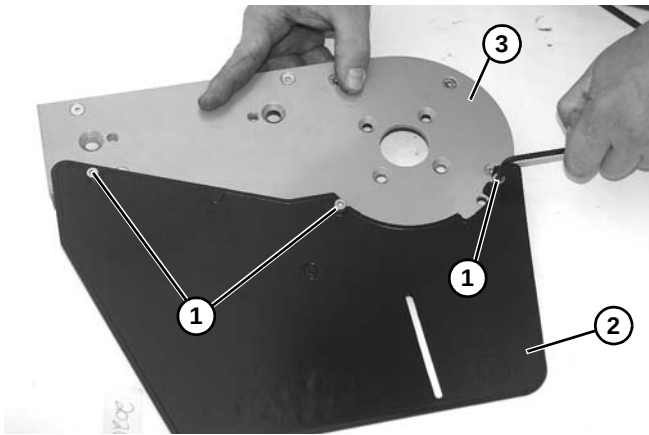

Figure 77
2. Remove three socket head screws (**Figure 77, item 1**) and remove drive plate guard (**Figure 77, item 2**) from drive plate (**Figure 77, item 3**).